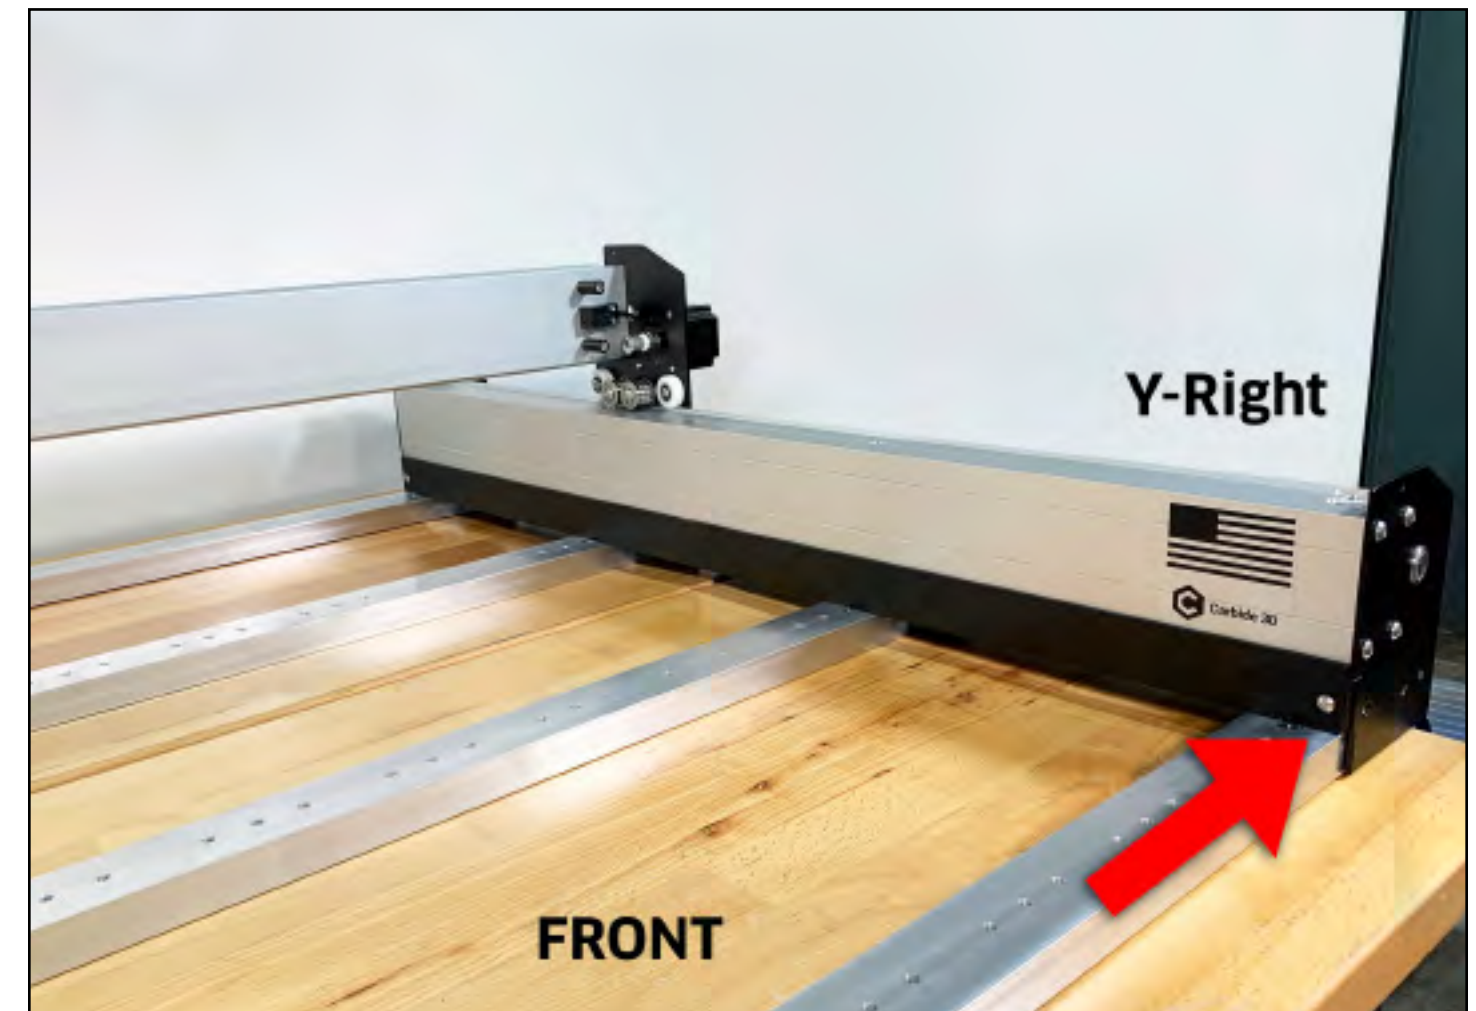

Figure 4-7
2. Position one side skirt along the bottom-inside edge of the Y-Right rail. See **Fig. 4-7**.
3. Use a 3mm hex key and two (2) M5×8mm BHCS to secure the skirt to the endplate flanges. Fully tighten.
5. Use a 3mm hex key and two (2) M5×8mm BHCS to secure the skirt to the flanges on the front and back endplates, below the Y-Left rail. Fully tighten.